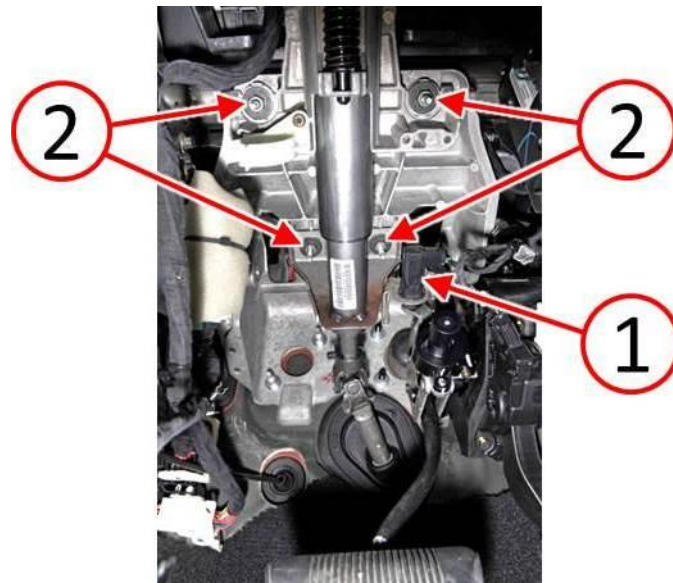

Fig. 4 Brake Pedal Sensor And Steering Column Fasteners
8. Remove the brake pedal position sensor (1) as specified in the following steps (Fig. 4).
9. Support the steering column, then remove the steering column mounting nuts (2) (Fig. 4).